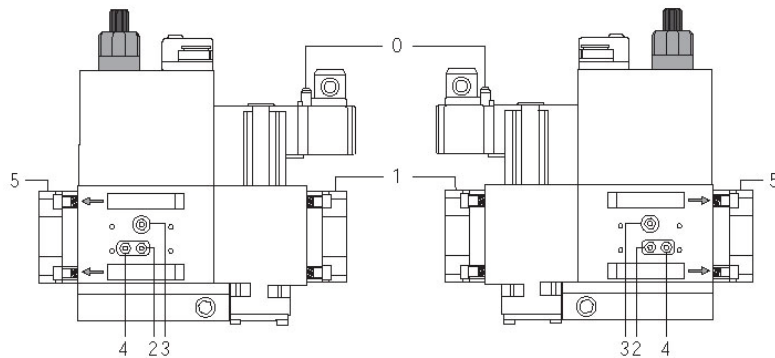
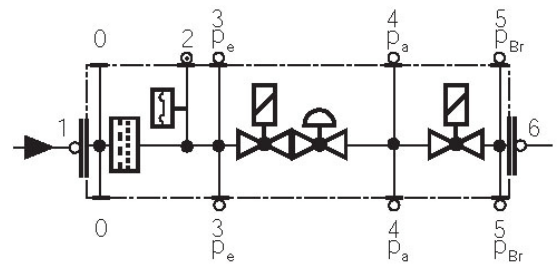

Fig. 28
Fig. 29
- Change the filter if the pressure difference between pressure connection 1 and 2 (Fig. 28-Fig. 29) $\Delta p > 10$ mbar.
- Change the filter if the pressure difference between pressure connection 1 and 2 (Fig. 28-Fig. 29) is twice as high compared to the last check.